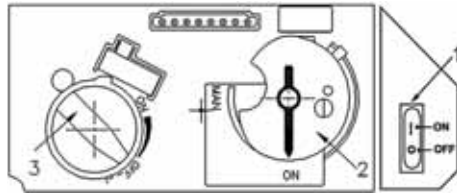
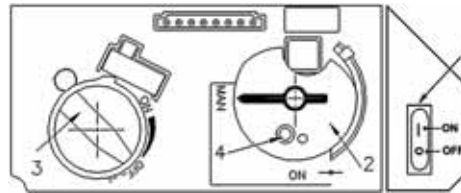
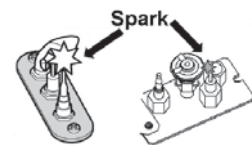

Fig 1
Fig 2
Fig 3
2. SET ON/OFF SWITCH (1) TO "OFF" POSITION.
- Wait five (5) minutes to clear out any gas, then smell for gas, including near the floor. If you smell gas, STOP! Follow "B" in the safety information above on this label. If you don't smell gas, go to the next step.
3. AUTOMATIC IGNITION (fig. 1): Locate the pilot (fig 3.) inside of firebox at Left Hand side.
- ON/OFF switch (1) in ON position, MAN-knob (2) in ON position; set Flame Adjustment knob (3) to lowest setting (⊖);
- When the pilot is lit, the Flame Adjustment knob (3) will automatically rotate to the highest setting.
4. MANUAL IGNITION (fig. 2): With the window off, locate the pilot (fig. 3) inside of firebox at Left Hand side;
- ON/OFF switch (1) in ON position, MAN-knob (2) in MAN position;
- Set Flame Adjustment knob (3) to the lowest setting (⊖);
- Push down the metallic core (4) with a pen or similar instrument; this will establish the pilot gas flow; Light gas at the pilot (5) with a match;
- Continue holding down metal core (4) for about 10 seconds; after release, pilot should remain lit;
- If the pilot will not stay lit after several tries, turn the gas control knob (3) to "OFF" (⊖) and call your local service technician or gas supplier.